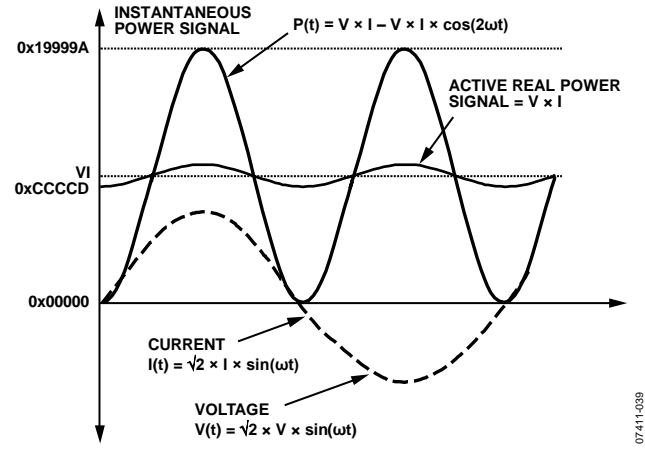

Figure 64. Active Power Calculation
Note that the active power is equal to the dc component of the instantaneous power signal, $P(t)$, in Equation 9, that is, VI . This is the relationship used to calculate active power in the ADE5169/ADE5569. The instantaneous power signal, $P(t)$, is generated by multiplying the current and voltage signals. The dc component of the instantaneous power signal is then extracted by LPF2 (low-pass filter) to obtain the active power information (see Figure 64).
As mentioned in the Active Energy Calculation section, the discrete time sample period (T) for the accumulation register is 1.22 μs (5/MCLK). With full-scale sinusoidal signals on the analog inputs and the WGAIN register (Address 0x1D) set to 0x000, the average word value from each LPF2 is 0xCCCCD (see Figure 64). The maximum positive value that can be stored in the internal 49-bit register is 2⁴⁸ (or 0xFFFFFFFF FFFF) before it overflows. The integration time under these conditions when WDIV = 0 is calculated in the following equation: